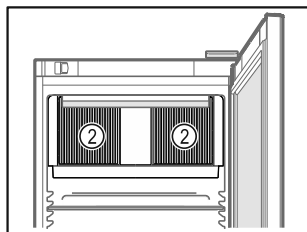

Fig. 60
- Ventilation slots Fig. 60 (2) for recirculation fan in the interior must be kept clear.